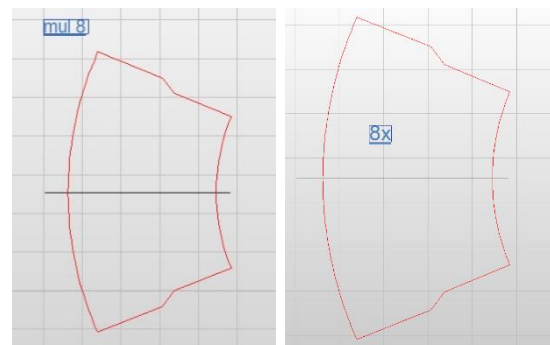

Figure 63
d. Next position the generated “mul 8” text somewhere next to our Bulkhead cut geometries (Figure 63 left)
Note: It is also possible to write “8x” instead of “mul 8” and to place the command directly inside a cut if just one cut needs to be multiplied (Figure 63 right). In the second case a command frame, which will be added in the next step, is not required. Consider that this is just possible for the Multiplier and Mirror Commands!